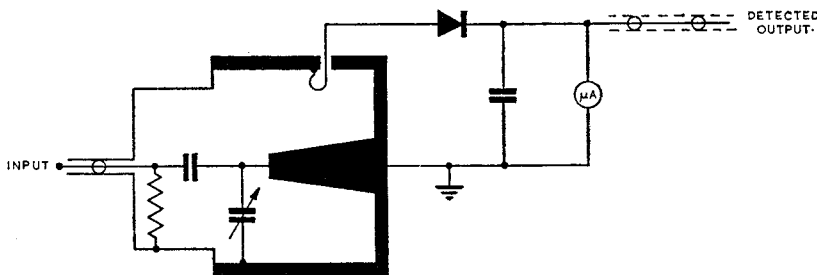

Fig. 3. Frequency meter: circuit
8. The circuit of the frequency meter is shown in fig. 3. It consists essentially of a concentric line resonator, closed at one end and tuned at the other by means of a variable capacitor. The nominal input impedance is 70 ohms.